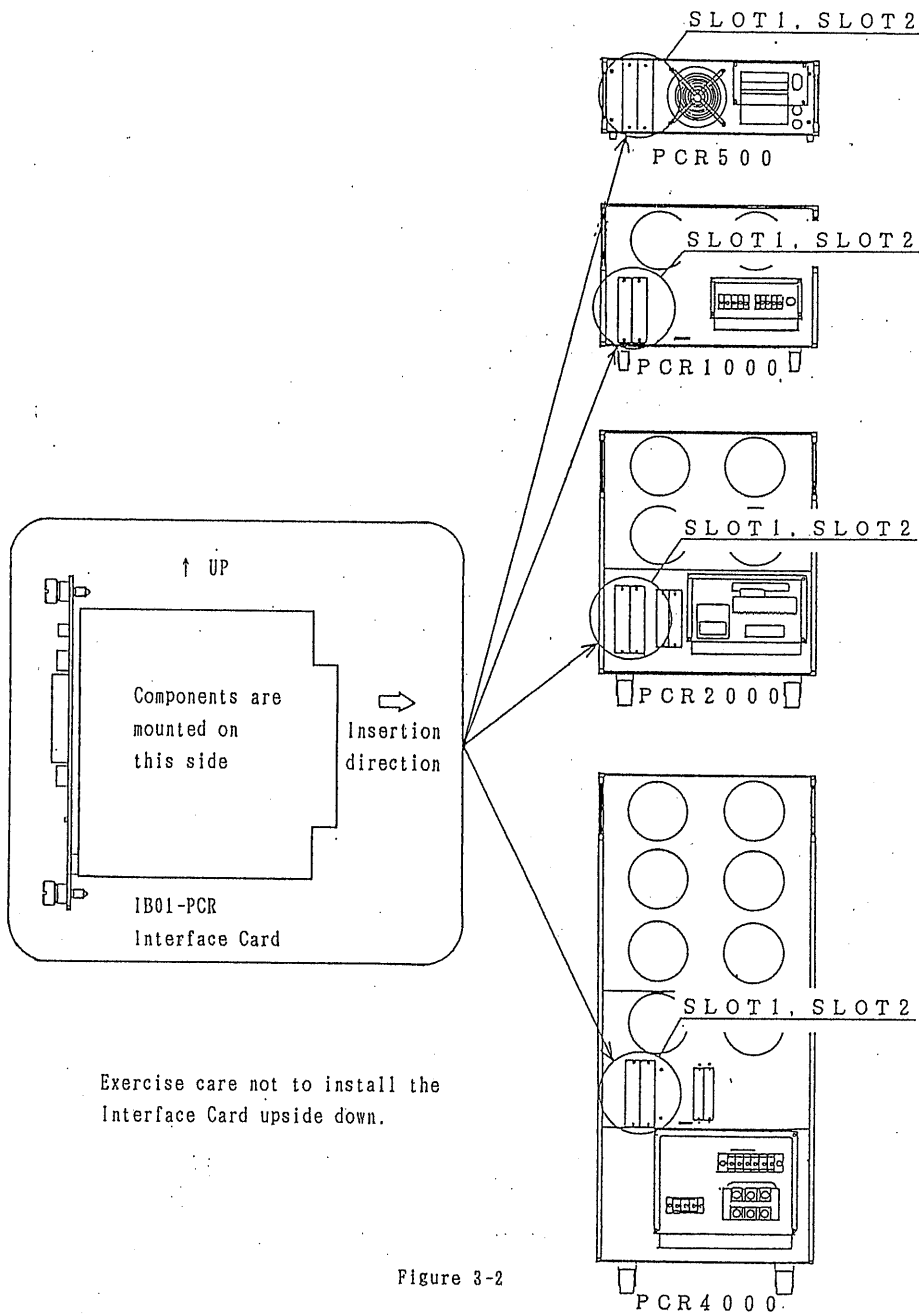

Figure 3-2
- (1) Insert the interface in SLOT 1 or SLOT 2 at the rear of the converter and securely fix the interface with the clamping-screws using a screwdriver. (See Figure 3.2.)